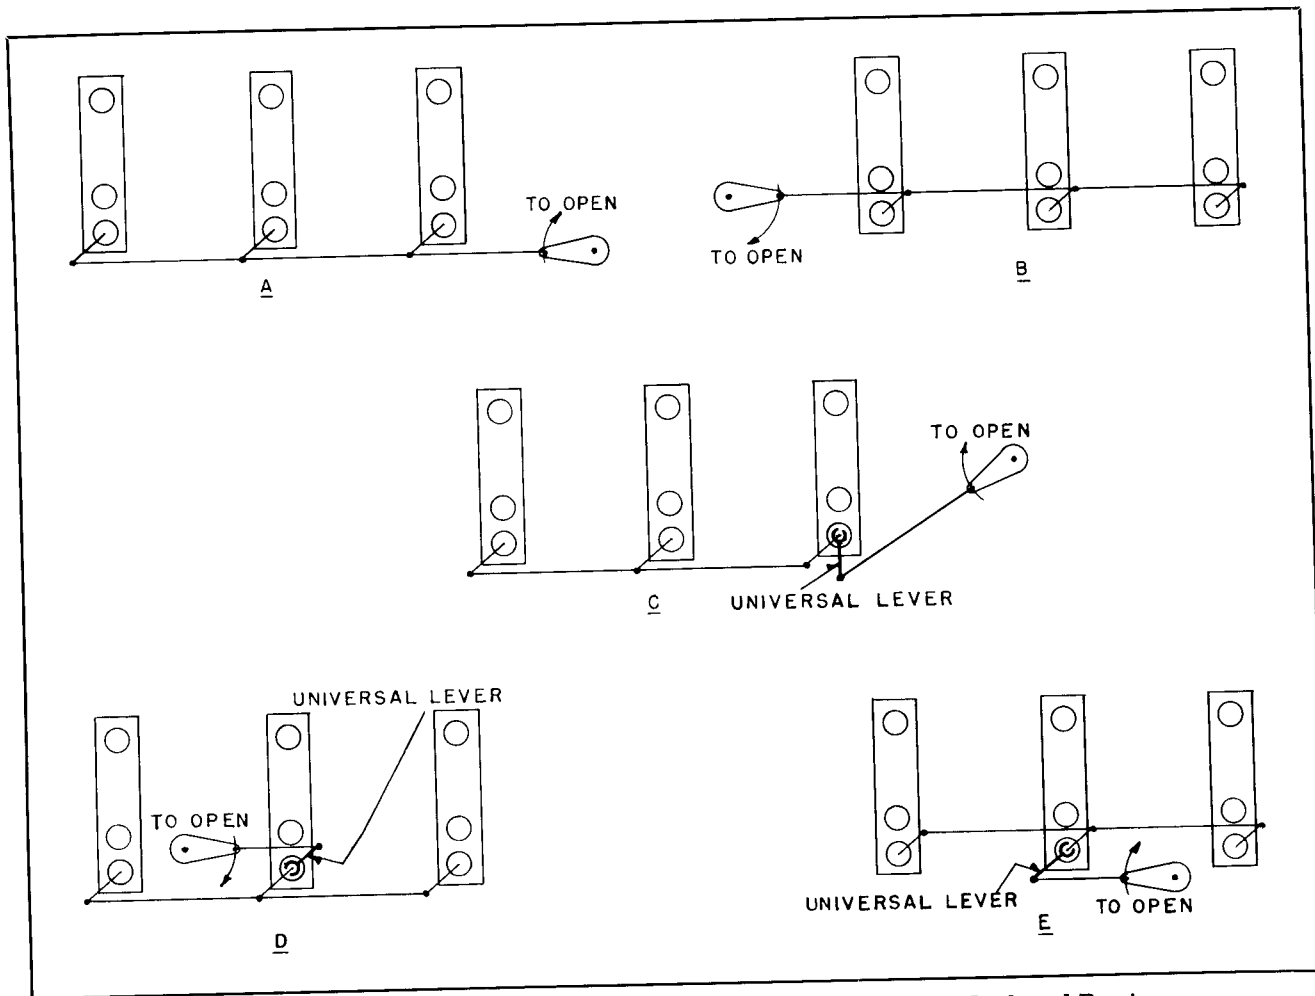

Fig. 5. Schematic Views showing several possible Arrangements of the Outboard Bearing, Connecting Pipe and Universal Lever
(B) When using an offset mechanism, and when the outboard pipe and the interphase pipes are in a straight line when the switch is closed, (Figs. 5-A or 5-B), the universal lever is not used. If the outboard pipe is not in line with the interphase pipes,
see Figs. 5-C, 5-D, 5-E, the universal lever should be used.
(D) If it is desired to operate the switch from the left as shown in Figs. 5-B and 5-E. It will be necessary to change the factory setting of the pole unit operating levers at the base of the rotating insulators by 180° . To make this change, remove the four bolts which hold the operating arm to the top of the rotating insulator. Turn the insulator 180° and reinsert and tighten the bolts.